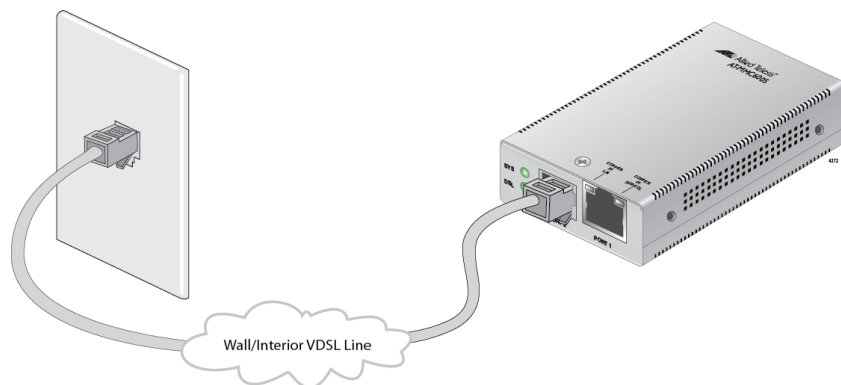

Figure 13. Subscriber Unit DSL Port to DSL Line in Building
2. Connect the DSL port on the Subscriber unit to the VDSL wall jack or the interior VDSL line in the building with either a phone line for the AT-MMC6005 or a coax cable for the AT-MMC6006 as shown in Figure 13. This connection allows the Subscriber unit to communicate directly with the Provider unit.